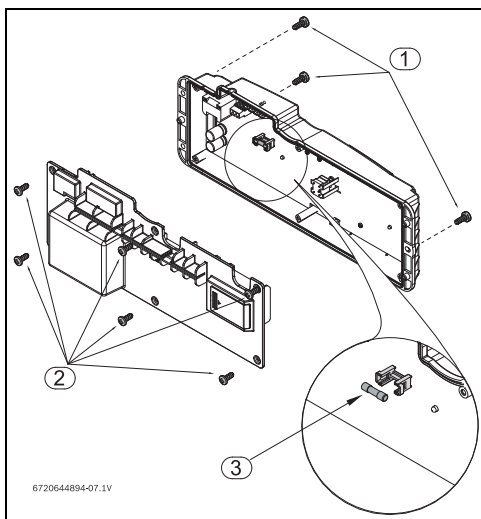

Fig. 50 Fuses position
- Remove the six screws from the back cover of the control unit, see fig. 50, pos. 2.
- Check the fuses in the printed circuit board, see fig. 50, pos. 3.